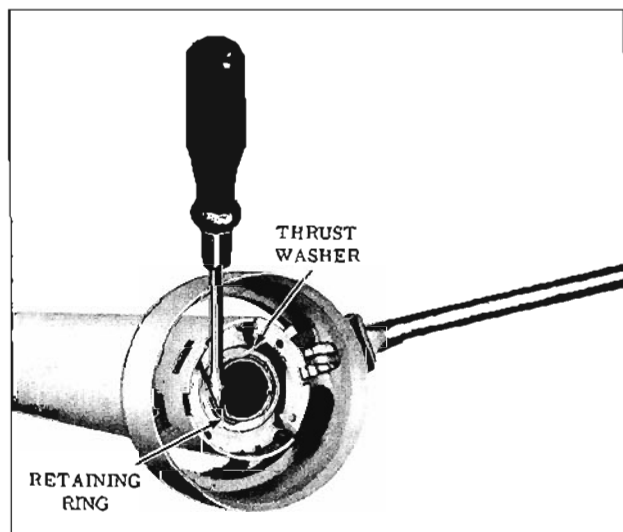

Fig. 8-105 Removing Shift Tube Upper Retaining Ring
2. Remove the shift tube retainer ring and washer from the top of the shift tube. (Fig. 8-105)